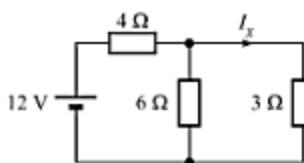

Fig. 2.33
- Determine the current I_x flowing through the 3Ω resistor in the circuit of Fig. 2.33. [Ans. $4/3$ A]